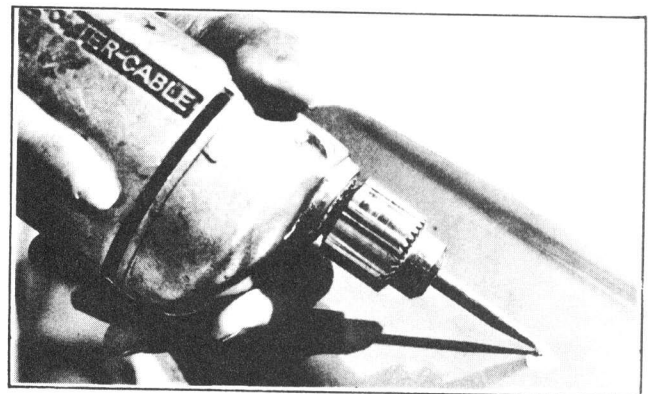

Figure 4-1. Roughing Damaged Area
2. Roughen the bottom and sides of the damaged area, using a power drill with a burr attachment. Feather the edge surrounding the scratch or gouge, being careful not to undercut this edge. See Figure 4-1.